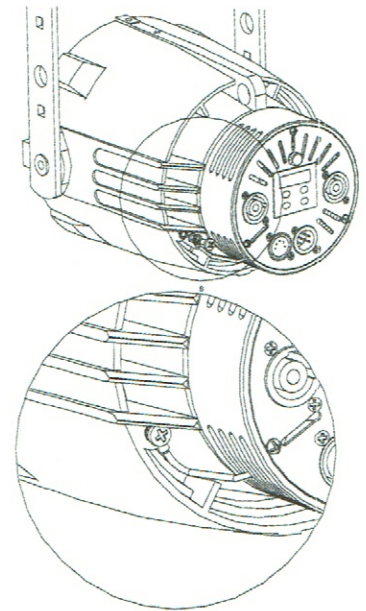

Fig.6
11. The lock washer and the M4 screw used for holding the eyelet-cord to ground the fixture as mentioned in point 3, must be used to secure the new eyelet-cord to ground/earth the fixture as shown in fig.6